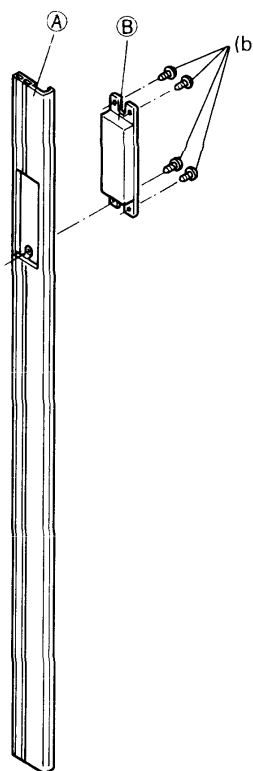

Fig. 7
- (1) Remove the corner panel **A** fastening the control unit.
- (2) Remove the screws **(b)** on fastening metal piece to pull out the control unit **B**. (See Figure 7.)